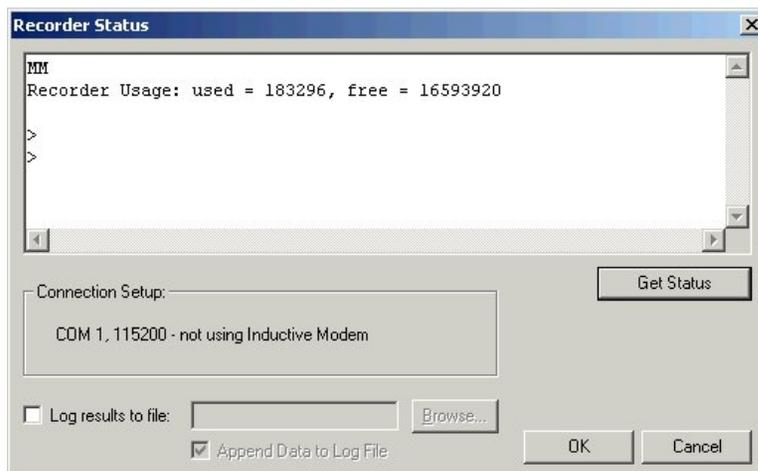

Figure 42. Recorder Status
- c. On the **Tools** menu, click **Recorder Status**. This will open **Recorder Status** screen (see Figure 42).